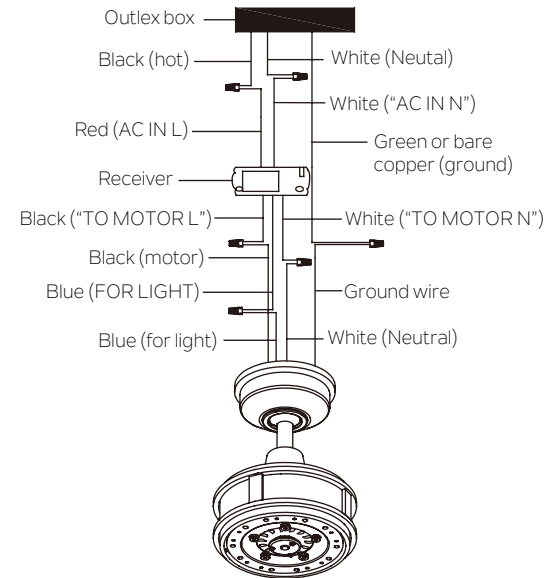

Fig. 16
Secure all the wire connections with the plastic wire connectors provided. (Fig.16)
Secure the wire connections with the plastic wire connectors provided. (Fig.16)
Step 3: Connect GROUND (GREEN) wires from hanger ball and mounting bracket, to GROUND (GREEN or BARE COPPER) from house. Secure the wire connection with a plastic connectors provided. After connecting the wires, spread them apart so that the green and white wires are on one side of the outlet box and black and blue wires are on the other side. (Fig.16)